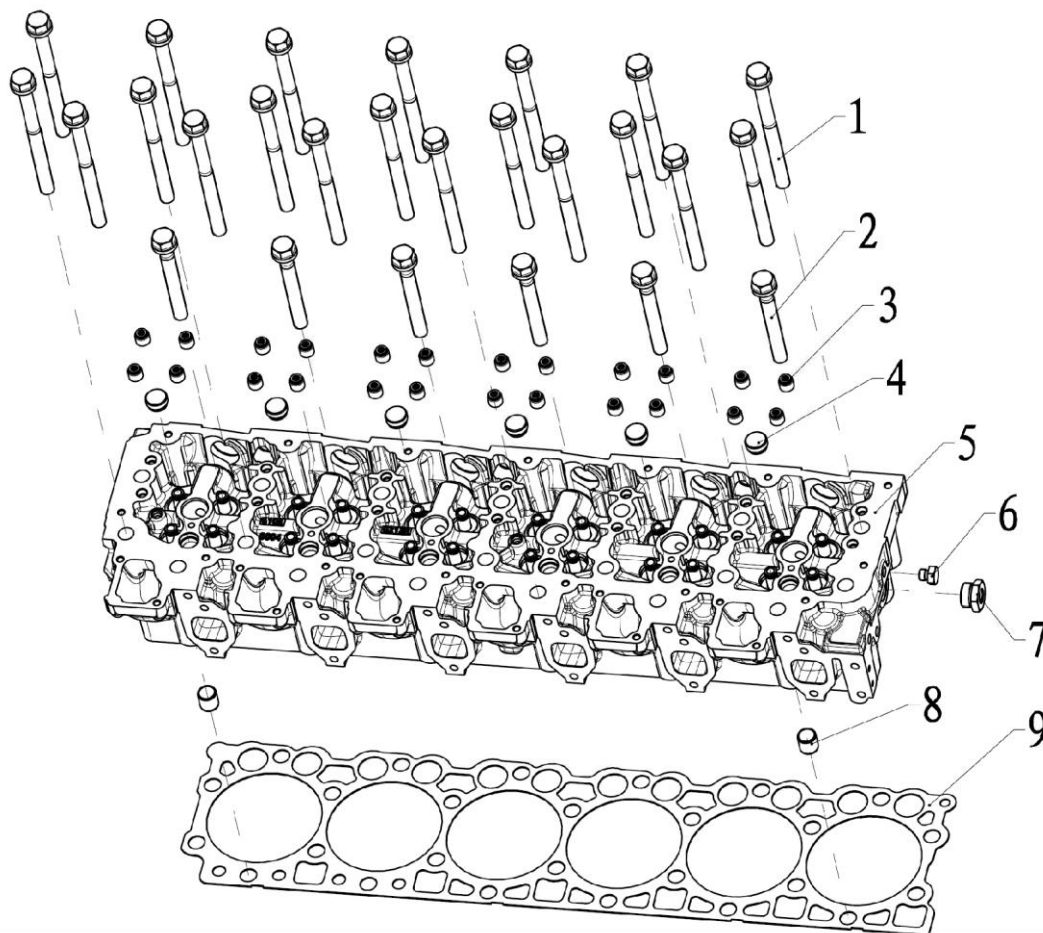
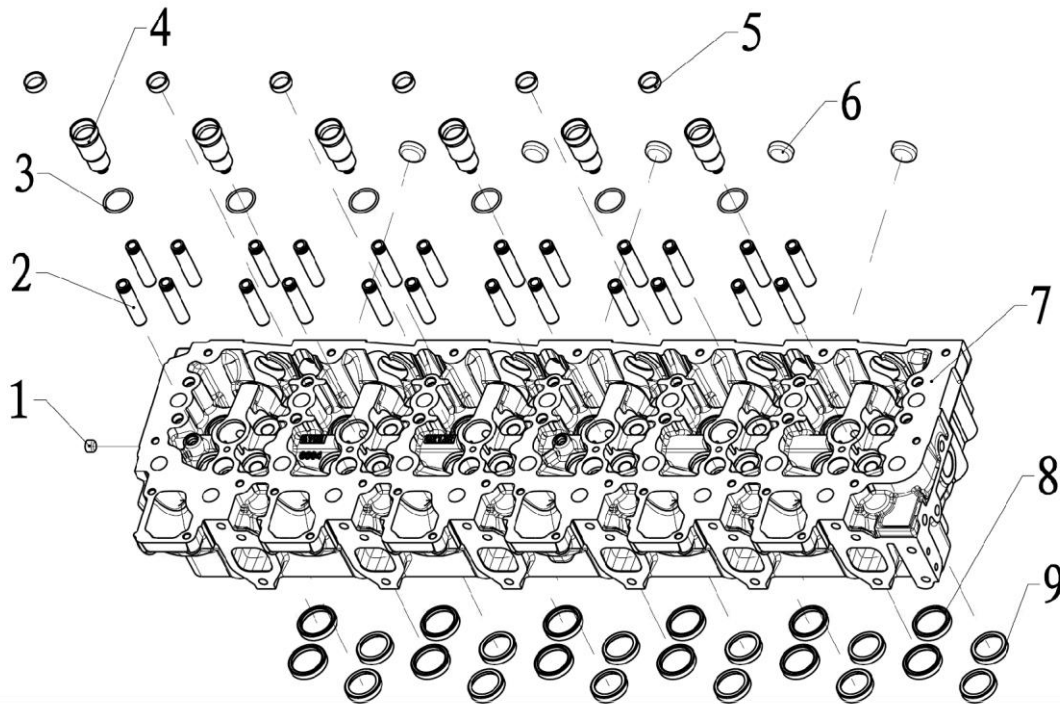

Fig. 4-8 Cylinder head subassembly and installation location schematic
Fig. 4-9 Cylinder head subassembly and installation location schematic
- j. Cylinder head subassembly and installation location schematic are shown in fig. 4-8 and fig. 4-9.